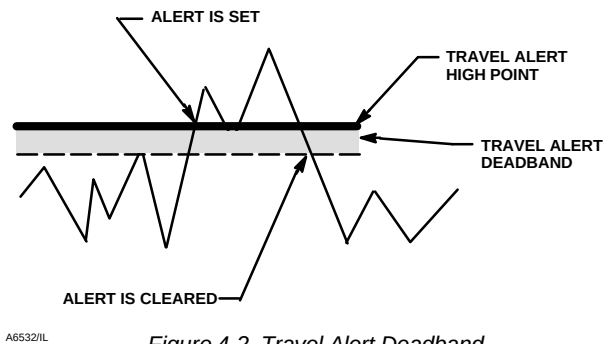

Figure 4-2. Travel Alert Deadband
- **Travel Alert DB**—Travel Alert Deadband is the travel, in percent (%) of ranged travel, required to clear a travel alert, once it has been set. The deadband applies to both Travel Alert Hi/Lo and Travel Alert Hi Hi/Lo Lo. See figure 4-2.
Travel Alert Hi Hi is set if the ranged travel rises above the alert high point. Once the alert is set, the ranged travel must fall below the alert high high point by the Travel Alert Deadband before the alert is cleared. See figure 4-2.
Travel Alert Hi is set if the ranged travel rises above the alert high point. Once the alert is set, the ranged travel must fall below the alert high point by the Travel Alert Deadband before the alert is cleared. See figure 4-2.